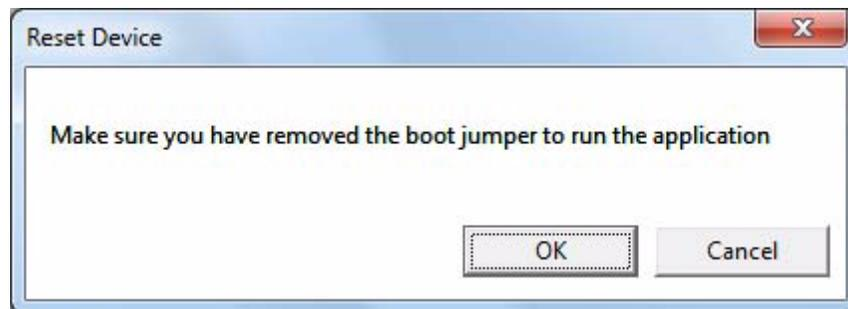

Figure 25. Reset Device Message
2. When selecting the reset device, the system displays the message shown in Figure 25.